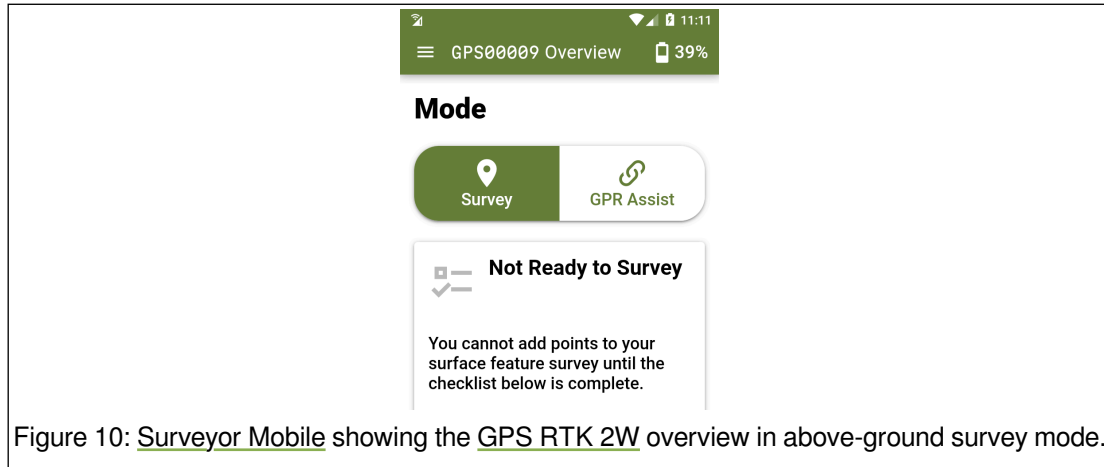

Figure 10: Surveyor Mobile showing the GPS RTK 2W overview in above-ground survey mode.
- Touch "Survey" to ensure the GPS RTK 2W is in above-ground survey mode, as shown in Figure 10.